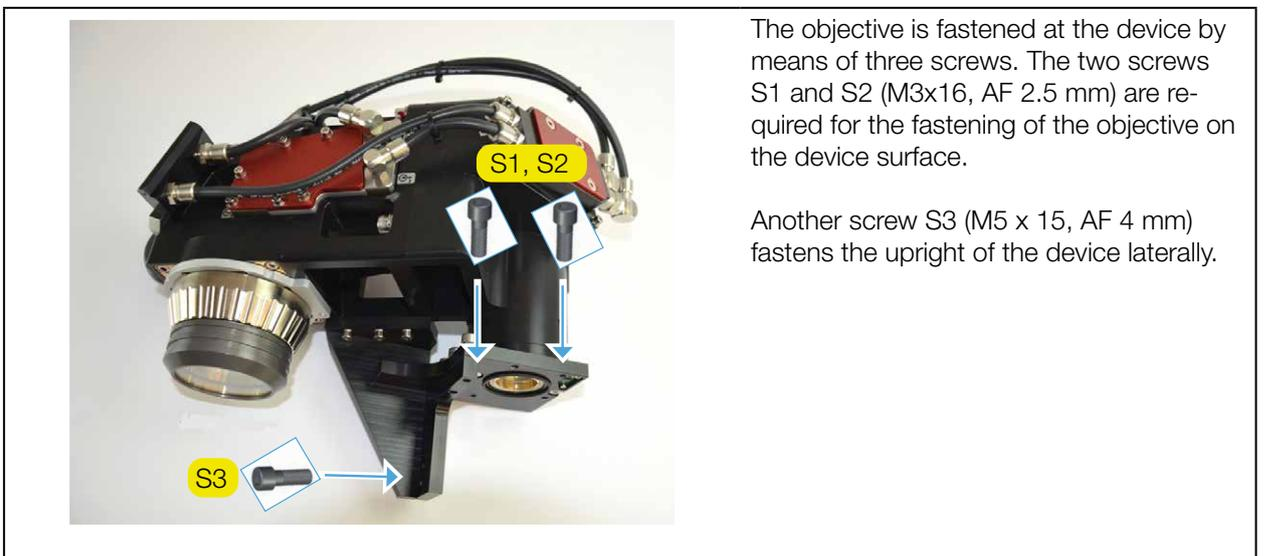

Fig. 11.2: Screws to fasten the objective
8. Remove the fastening screws (see Fig. 11.2 on page 91).